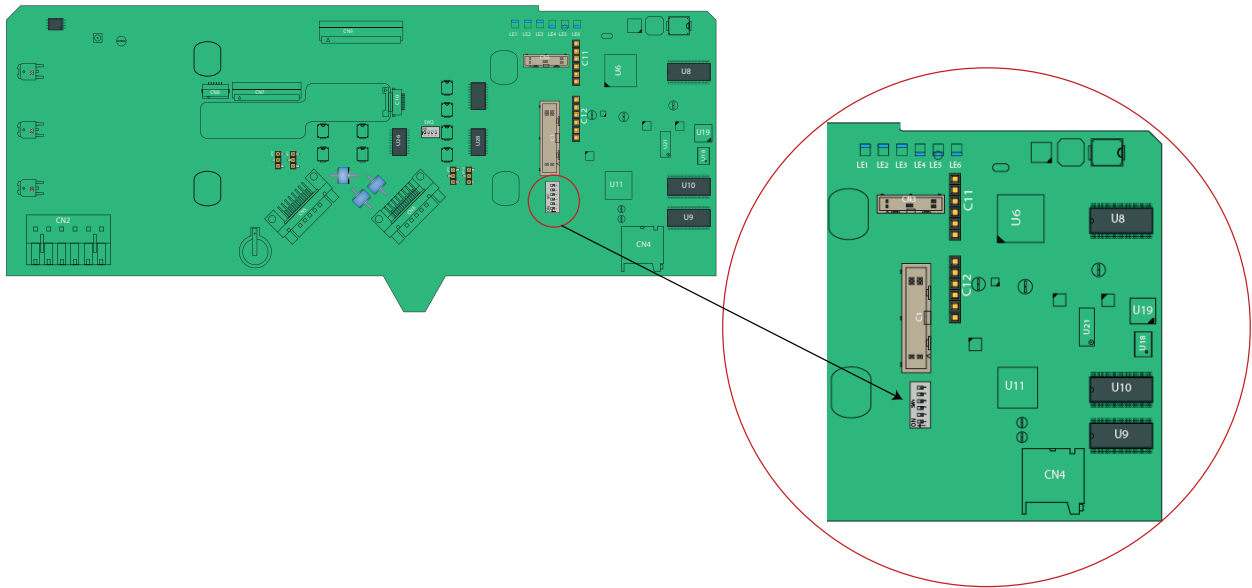

FIGURE 5-22
- The password read is protected by a jumper (JP2 of SW1 on the CAN-HMI-MSC, see FIGURE 5-22). If you have forgotten your password, remove the jumper and you should be able to read the password again